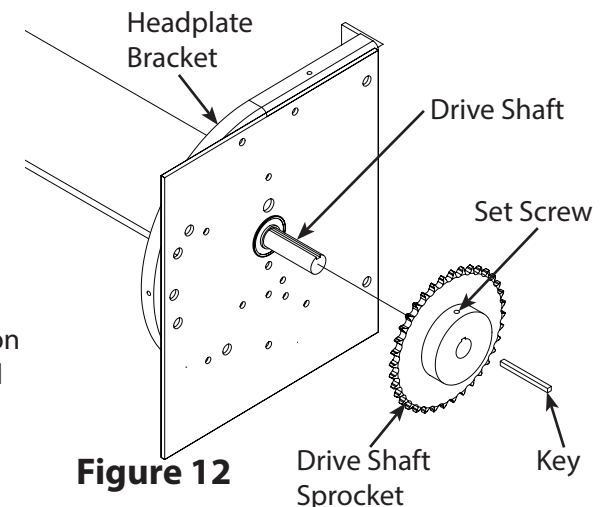

Figure 12
- Loosely secure the set screw in the Drive Shaft Sprocket to the Drive shaft, as shown in Figure 12.